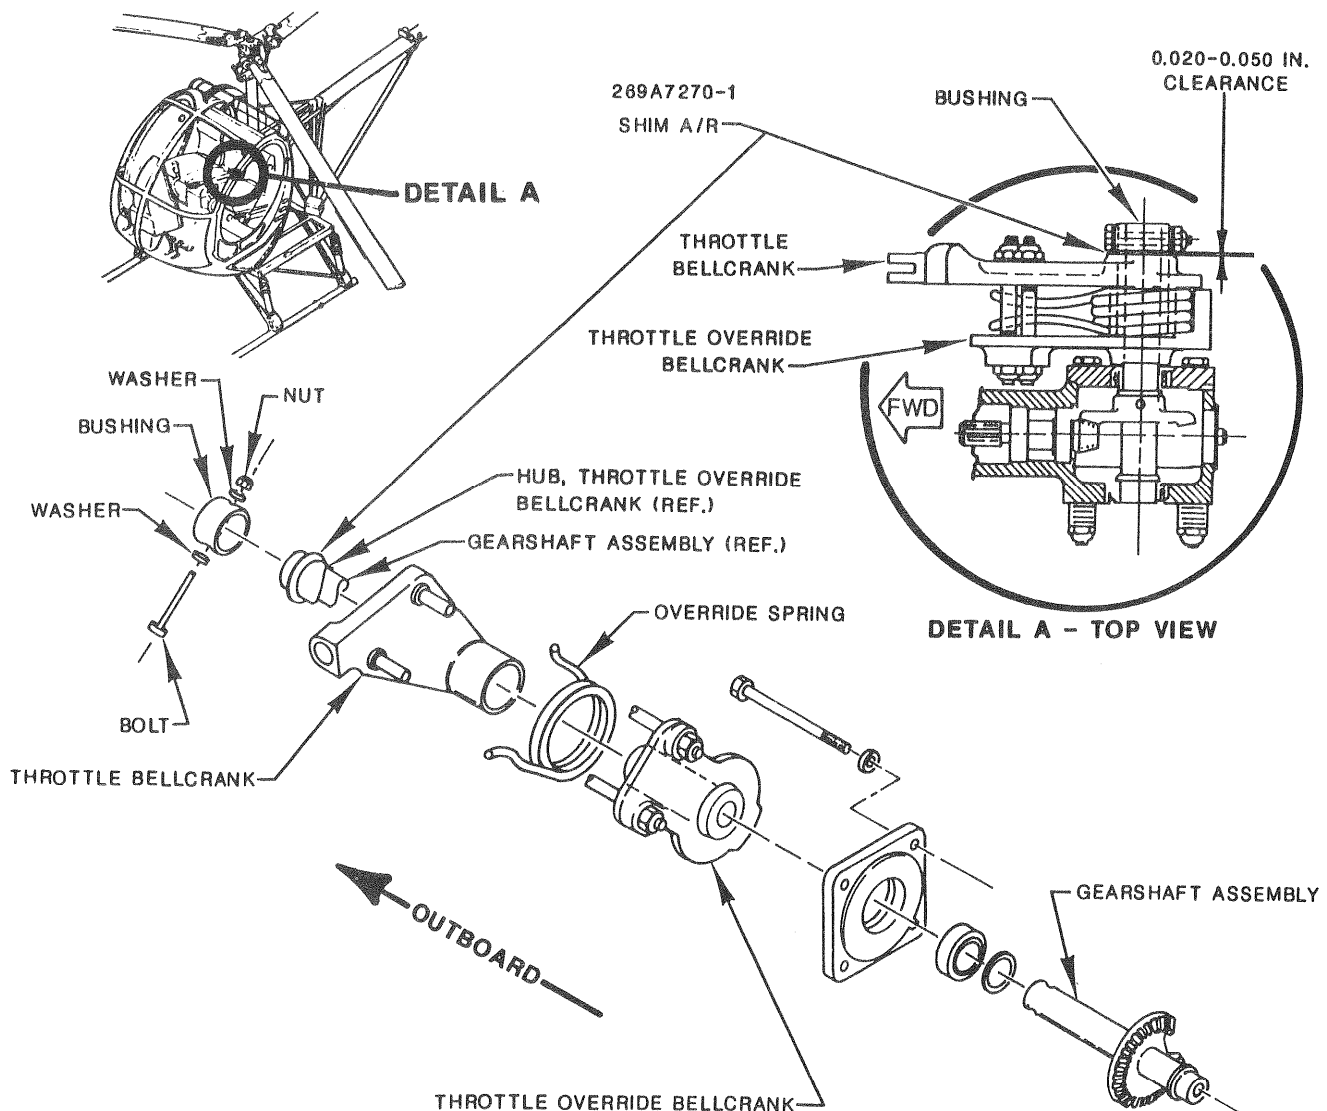

Figure B-249-1. Throttle Override Bellcrank Assembly.
- b. Push inboard on throttle bellcrank (Figure B-249-1) and verify that it is in solid contact with throttle override bellcrank. Using a feeler gage or similar tool, inspect for 0.020 to 0.050 inch clearance between throttle bellcrank and bushing, as shown on Figure B-249-1, Detail A.
- (1) Calculate the number of .020 inch shims (P/N 269A7270-1) necessary to reduce the clearance to 0.020 to 0.050 inch.
- (2) Prior to disassembly, observe/mark the orientation of bolt and bushing on gearshaft assembly. (This is necessary to ensure correct reassembly.)
- (3) Remove nut, washers, bolt and bushing from gearshaft assembly.
- (4) Using the data from step (1), install 269A7270-1 shim(s) at outboard end of throttle bellcrank, as shown on Figure B-249-1.
- (5) Align holes and reinstall bushing, bolt, washers and nut on gearshaft assembly. Ensure that bushing, bolt and gearshaft assembly are oriented in original position.
- (6) Verify that clearance between throttle bellcrank and bushing is correct, as specified in step b.
- (7) Operate throttle through entire range of override (in both directions) to verify correct operation of override assembly.